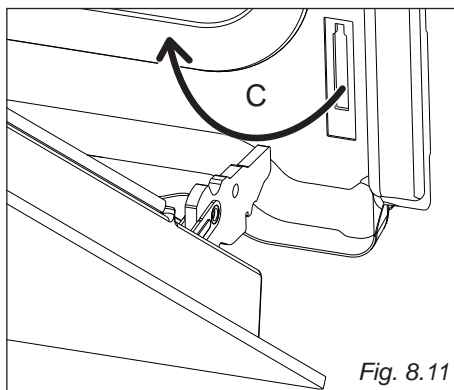

Fig. 8.11
- Withdraw the hinge hooks from their location following arrow "C" (fig. 8.11).